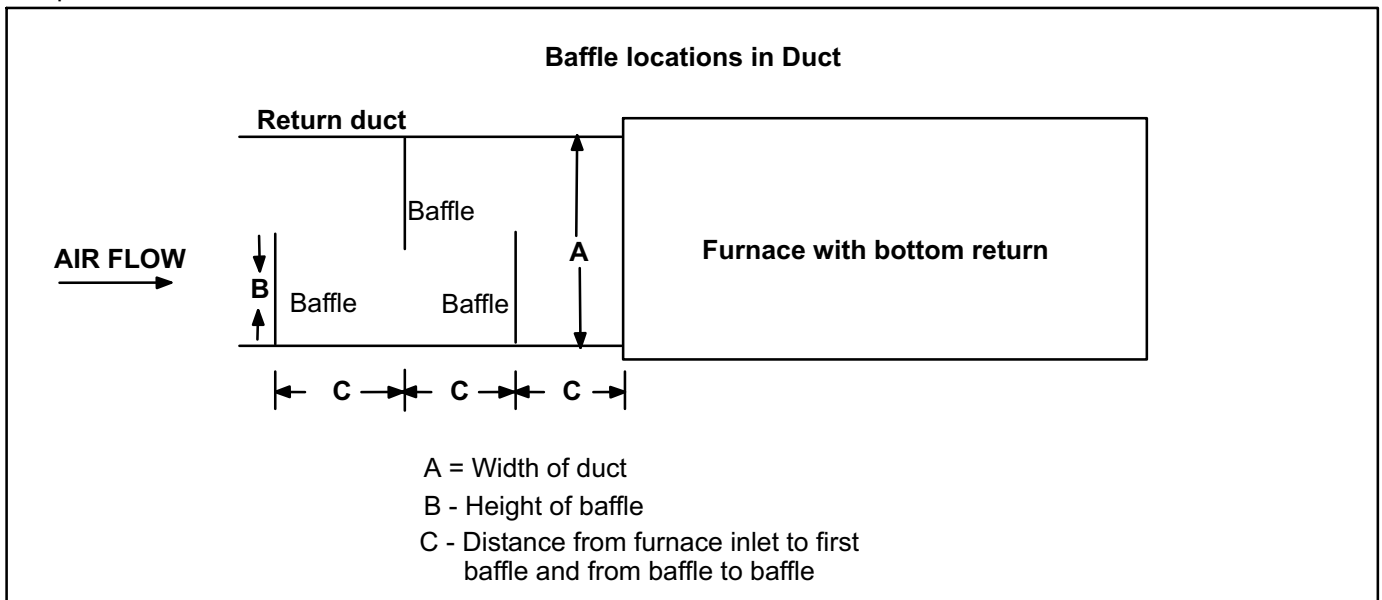

Figure 3
3- Use of Baffles (Figure 3)
b- An example of a baffled return is shown in figure 3. A starting point for size and positioning of baffles would be $B = .6 \times A$ and $C = A$. The baffles can be positioned top to bottom or side to side. Access to the duct for baffle installation will probably be the determining factor. Because installations will vary over a broad range, it is suggested that (4) baffles be made for installation. Start by installing (2) baffles; then run at low, medium and high speeds and measure the static at the furnace return to determine how much the pressure drop has increased over the non-modified condition and note how much sound reduction has resulted. If available, a sound meter should be used to obtain an objective measure of sound attenuation. The number of baffles can then be varied and distances adjusted to determine impact on pressure drop and on the level of sound attenuation. Select the best sound attenuation - pressure drop configuration. The height of the baffle can also be varied to assess impact. Once you have done this on a few jobs, you should develop a good feel for what works best for many of your installations, and can probably make such modifications using a less detailed approach